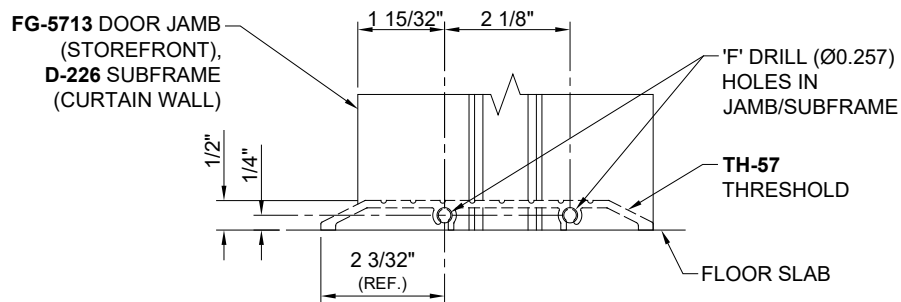

Figure 10: Fabrication for TH-57 Threshold
2.4.2 Fabricate Frame/Subframe per Figure 10.